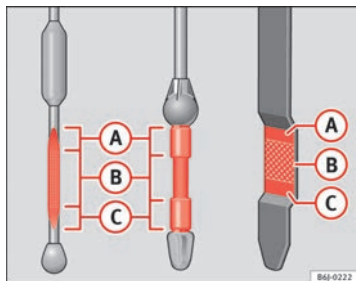

Fig. 167 Engine oil dipstick
- Then pull it out once more and check the oil level ⇒ fig. 167. Top up with engine oil if necessary.